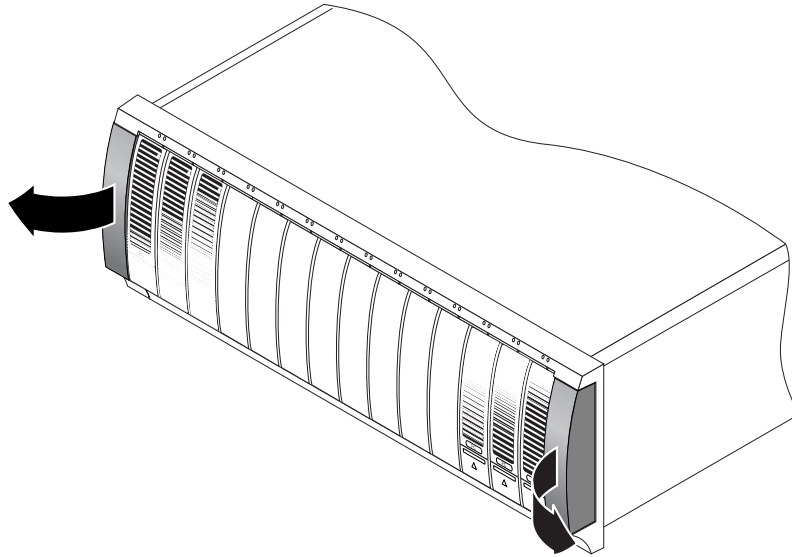

FIGURE 2-31 Removing the End Caps on the Tray
1. Unsnap and remove the left and right end caps on the tray to permit access to the screw mounting holes (FIGURE 2-31).